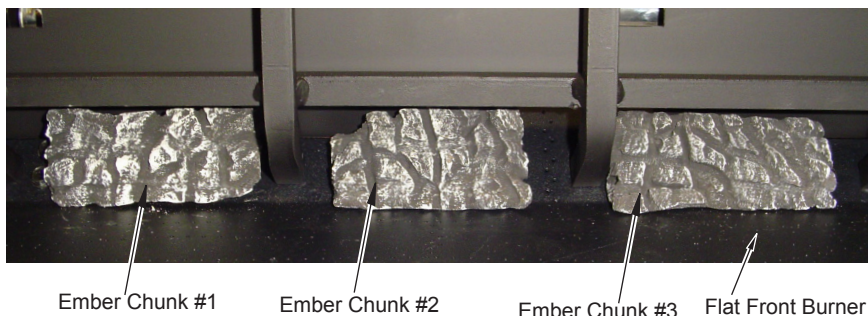

Figure 45 - Ember Chunk Placement VFS36 Series
1. **Ember Chunk Placement.** The VFS36 series burner systems include three ember chunks that are designed to fit over shoulder screws on the ember pan burner. The bottom of each ember chunk has a hole for securing the ember chunk in place when it is placed over a shoulder screw. Place the ember chunks as shown in Figure 45 by placing the ember chunk with the number "1" on the left, "2" in the center, and "3" on the right. These numbers are embossed on the back of each piece for identification purposes. Please note that VFS32 series burner systems **do not** include ember chunks.